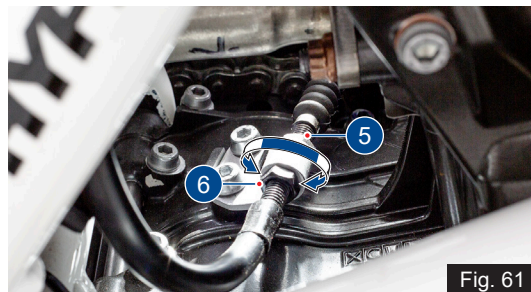

Fig. 61
- Lock the lock nut (3) again.
- Re-fix the dust cover (2) and cable clamp (1).
- Loosen the lock nut (5) at the bottom end of the clutch cable (ref. Fig. 61).
- Turn the adjuster in (6) 'in' or 'out' until the specified play is obtained and then tighten the lock nut and check the adjustment once again (ref. Fig. 61).